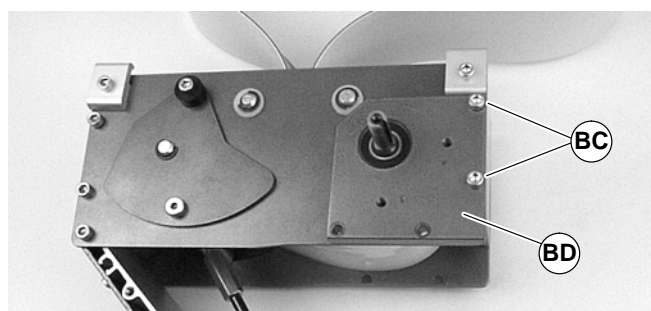
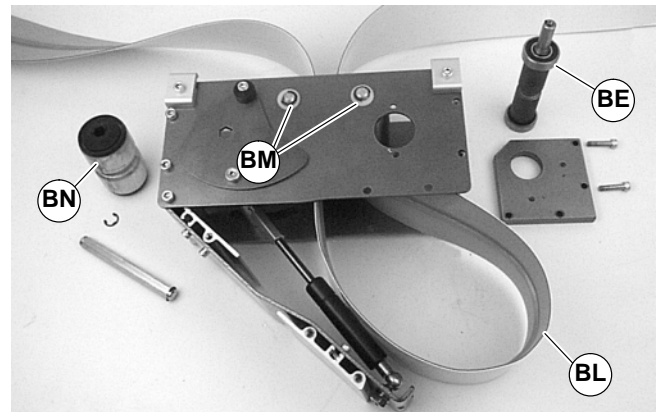

Figure 27
Figure 33
1. Remove drive plate screws (BC of Figure 27). Remove the tension drive plate (BD).
2. Place loop of belt (BL of Figure 33) into the drive module between top idler pulleys (BM).
3. Place grooved idler pulley (BN of Figure 33) into the belt loop and install it in the drive module. Refer to “Belt Removal from Drive Module” on page 12 and reverse step 3.
4. Place drive pulley (BE of Figure 33) into the belt loop and install it in the drive module. Refer to “Belt Removal from Drive Module” on page 12 and reverse steps 1 and 2. Tighten screws (BC of Figure 27) to 9 Nm.